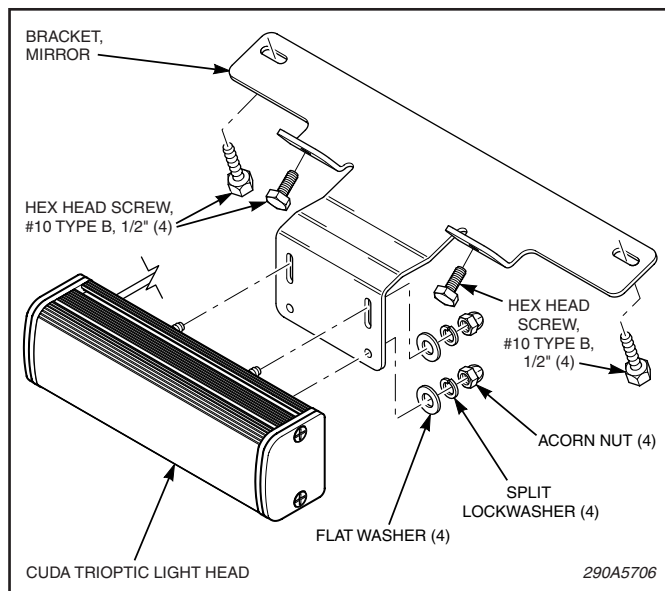

Figure 1.
1. See figure 1. Following the directions in the vehicle manufacturer's service manual, remove the headliner far enough to access the roof brace near the windshield. Using the bracket as a template, mark the four mounting hole locations.